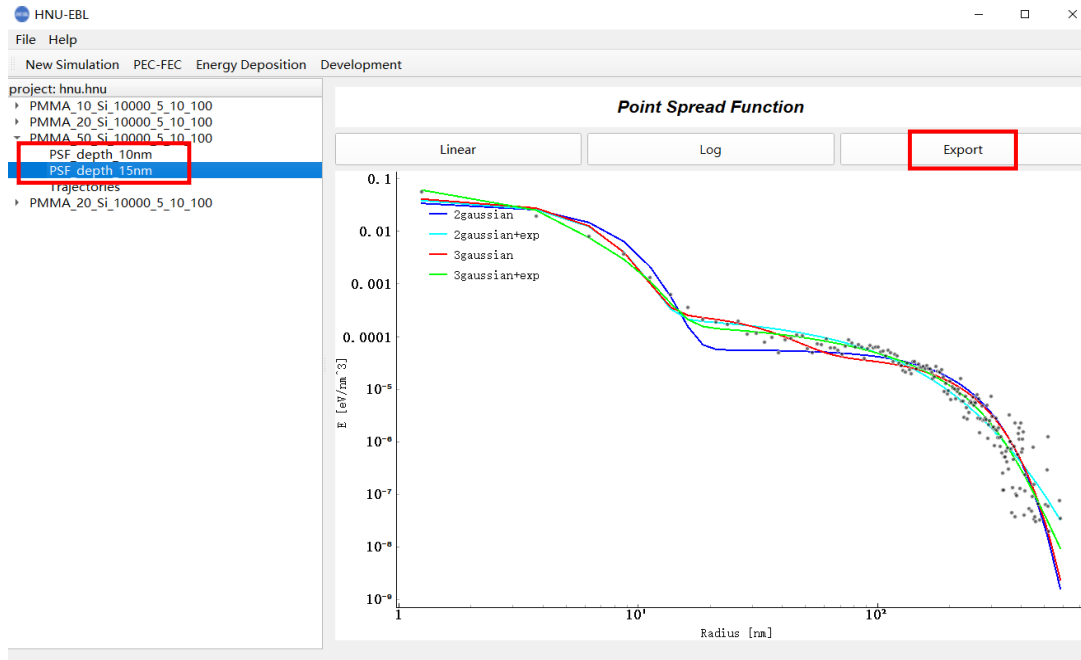

Figure 2.4.1 Point spread function fitting interface
(1) You can click the triangle symbol on the left of the corresponding MC simulation result to display the MC simulation result (Figure 2.4.1).
(3) You can click "linear" on the right to display the fitting results when the X coordinate is linear; Click "log" on the right to display the fitting results when taking the logarithm of the X coordinate.
(4) You can zoom in and out by scrolling with the mouse wheel or dragging with the left mouse button.
(5) You can click "export" (as shown in Figure 2.4.1) to export the scatter coordinate file.
(6) If you need to check the fitting coefficient of the corresponding Monte Carlo simulation results, left-click the PSF_depth_x corresponding Monte Carlo